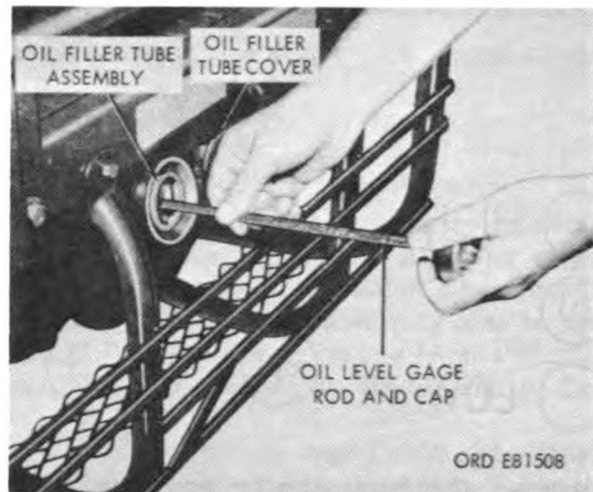

Figure 2-9. Oil level gage rod and cap.
b. Oil Level Gage Rod and Cap. The oil level gage rod and cap (fig. 2-9) is located on the engine at the rear of the vehicle. The gage consists of a metal gage rod attached to the underside of the oil filler tube cap (see par. 1-8).